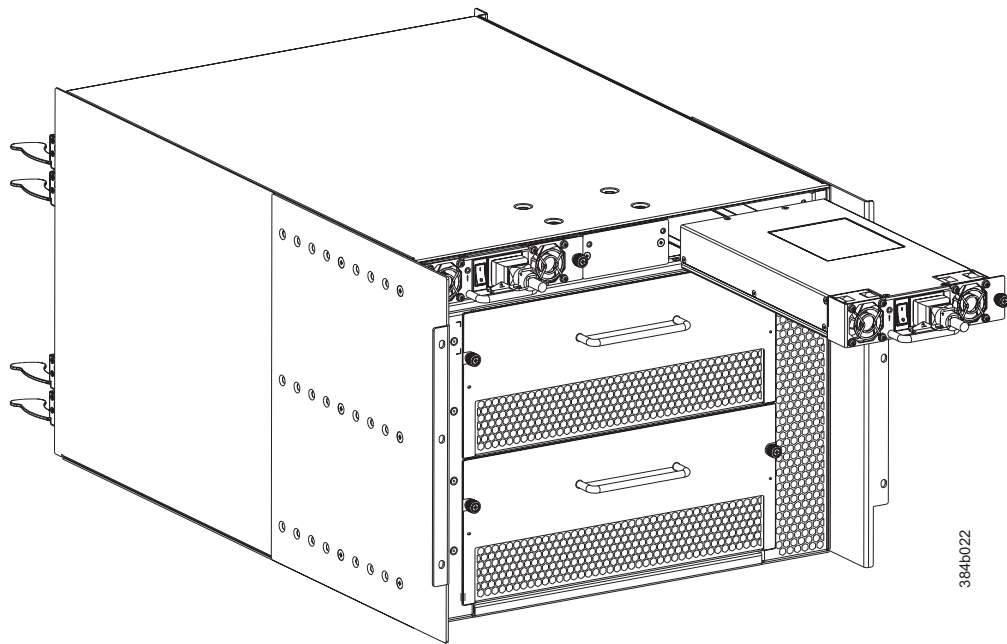

Figure 38. Removing and installing a power supply
5. Grasp the handle and pull, sliding the power supply from the chassis (see Figure 38 on page 88). Support the power supply from beneath as you remove it.